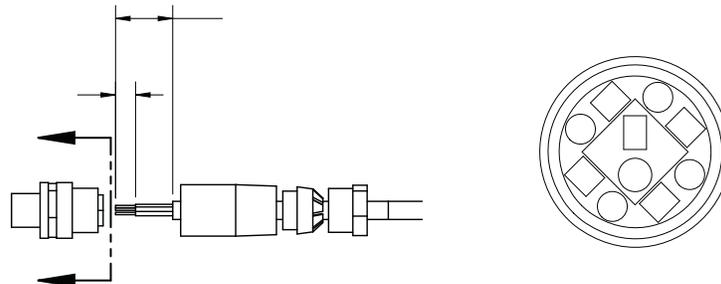

Figure 7-3. Load Cell Wiring
9. Strip wires for connection to the new load cell connectors. See Figure 7-3.
11. Wire the load cell 5-pin male connector to the following color codes Table 7-1. and Figure 7-3. Note the orientation of the raised diamond in Figure 7-3. Use the supplied tool in the rectangular tool slot to lock wires down.
12. Add blue Loctite® 425 to the two contact points as indicated in Figure 7-3.